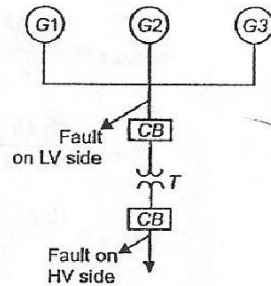

Fig. 8.11: Circuit diagram of Example 8.10.
**Example 8.10:** A generating station consists of two 100 MVA generators with 6% reactance each and one 150 MVA generator with 8% reactance as shown in Fig. 8.11. These generators are connected to a common bus bar from which loads are taken through a number of 50 MVA, step up transformers each having 5% reactance. Compute the rating of circuit breaker on (i) low voltage side and (ii) on high voltage side.